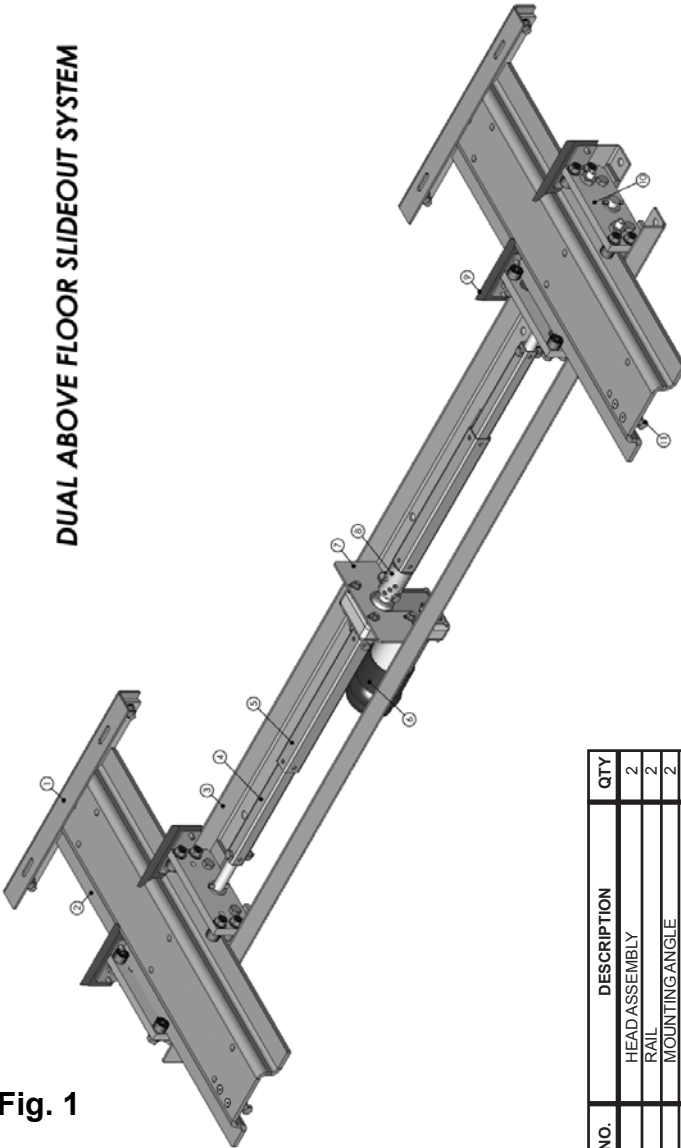

Fig. 1
- Visually inspect the Slide Floor and Drive Box Assemblies. Refer to Fig. 1 for location of rail assemblies. Check for excess build-up of dirt or other foreign material; remove any debris that may be present.